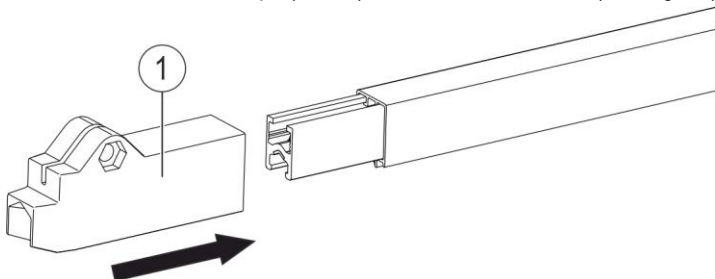

Fig. 97: Slide the end cap onto the end of the rail
- Slide the end caps (Pos. 1) onto the end of the rail (see Fig. 97) and mount (see Section 6.4.3.10).